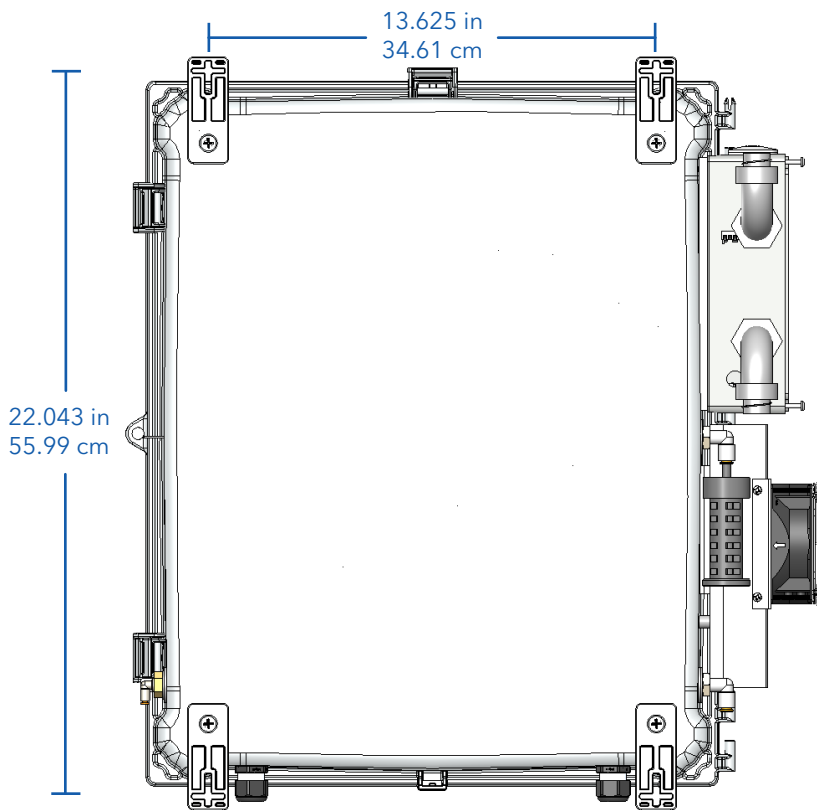
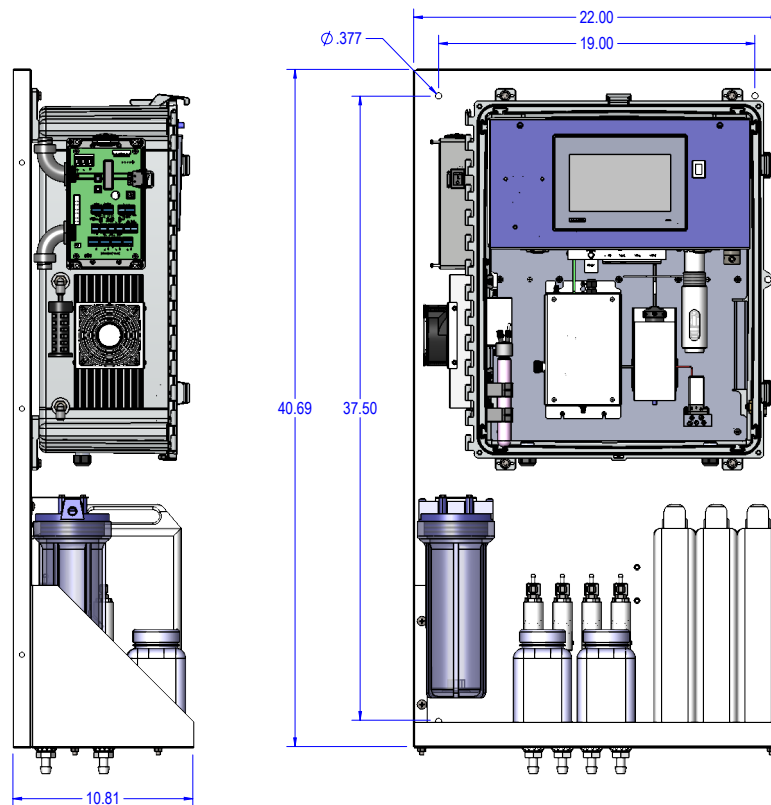

Figure 3.1 9220 Back View with TEC Heat Sink
Figure 3.3 9220 Mounting Rack Installation
3. Install the (4) upper and lower mounting feet using the hardware provided, as shown in Figure 3.1.
4. Using the upper and lower mounting feet, firmly mount the 9220 to the mounting panel with (4) ¼"-20 x 1" bolts.
7. Install the Sample Inlet Device(s). The 9220 TOC can accept up to (4) Sample Inlet Devices. The mounting positions are near the bottom of the panel in the center. Cutouts in the reagent tray allow the inlet and outlet ports to pass through the tray. The Sample Inlet Devices can be installed in any position; however, it is convenient to start left-to-right and designate the devices as Streams 3, 4, 5, and 6. Attach 1.5-inch clamps to hold the Sample Inlet Device using the 8-32 screws provided in the startup kit. Position the Sample Inlet Device in the clamp and tighten the clamp. See Figures 3.3 and 3.4.
8. A drawing of a complete 9220 and mounting panel assembly is shown in Figure 3.3.
NOTE: Any suitable stand, which is designed for mounting process instrumentation, can be used to mount the instrument. Ensure the 9220 panel is securely mounted at the four mounting points, as shown in Figure 3.1. If a freestanding stand is used for mounting, ensure that it is leveled and secured to the floor. If the base of the stand is not required, ensure that the vertical section or panel is secured to a wall.